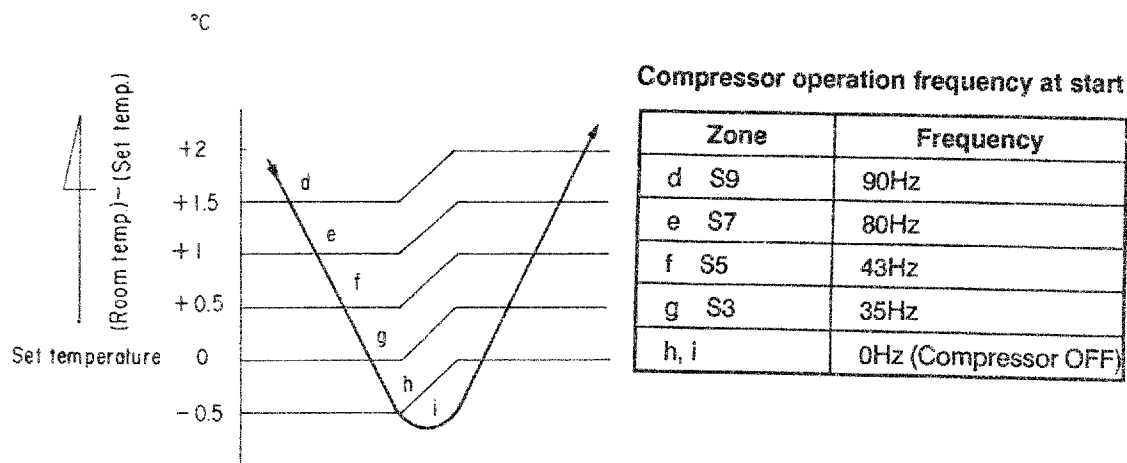

Fig. 3
- The cool capacity and room temperature are controlled by changing the compressor motor speed according to both the difference between the temperature detected by the room temperature sensor and the temperature set by THERMO button and also any change in room temperature as shown in Fig. 3.
- The outdoor current sensor detects input current to the compressor (namely, the inverter main circuit section), which utilizes most of the input to the air conditioner. When the current value exceeds 13.5A (at 220V), or 12.0A (at 240V), the compressor speed is reduced gradually to maintain the value at 13.5A (at 220V), or 12.0A (at 240V) or less. When the current decreases to about 14.0A (at 220V) or 12.5A (at 240V), the capacity is controlled as described in 3-(2)-1) and as shown in Fig. 3.